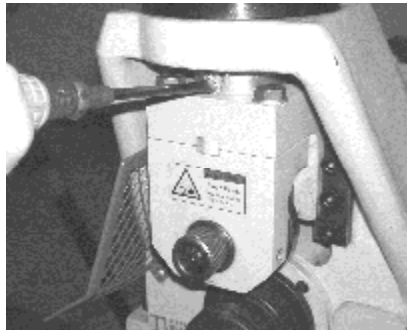
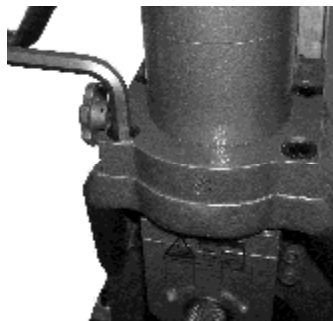
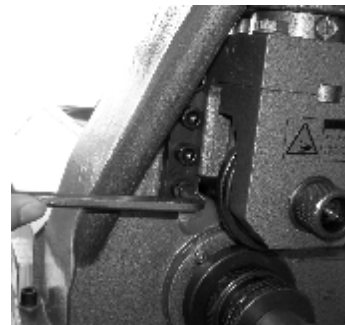

Fig. 7
Fig. 8
Fig. 9
8. If you want to remove the whole oil cylinder from the unit head, you shall press the slide and move it downward to the lower position, loosen the fastening screws of piston fasten ring (**Fig.7**) and the 4 socket head screws (**Fig.8**) of pump seat.
9. For the remove the hole roller frame, loosen the 2 piston screw (**Fig.7**) and the 8 hexagon socket head cap screw (**Fig.9**)